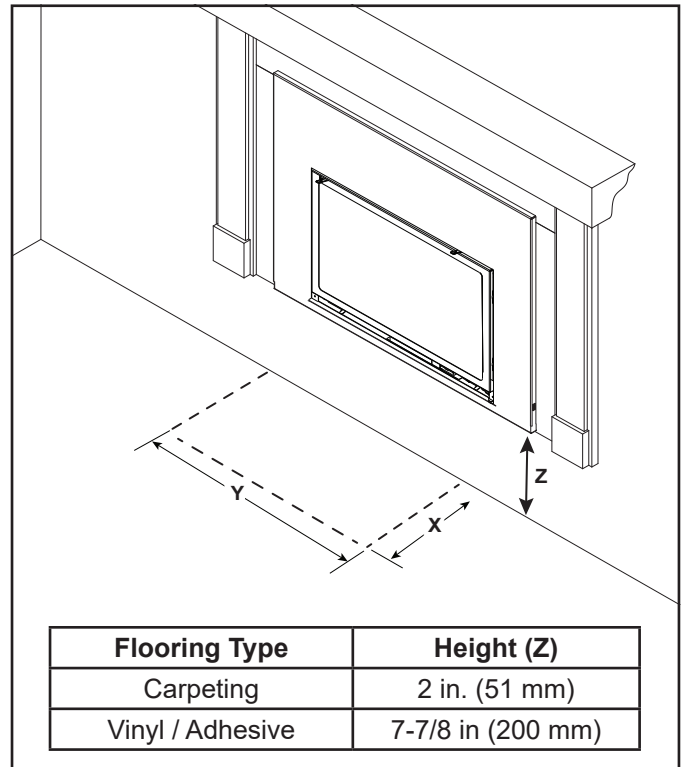

Figure 3.16 Hearth - Minimum Height for Vinyl / Adhesive or Carpeting Flooring
- Carpeting is acceptable in front of the appliance when the appliance is raised off the floor 2 inches (50 mm) or more. See Figure 3.16.
- Vinyl / adhesive flooring is acceptable in front of the appliance when the appliance is raised off the floor 8 inches (200 mm) or more. See Figure 3.16.